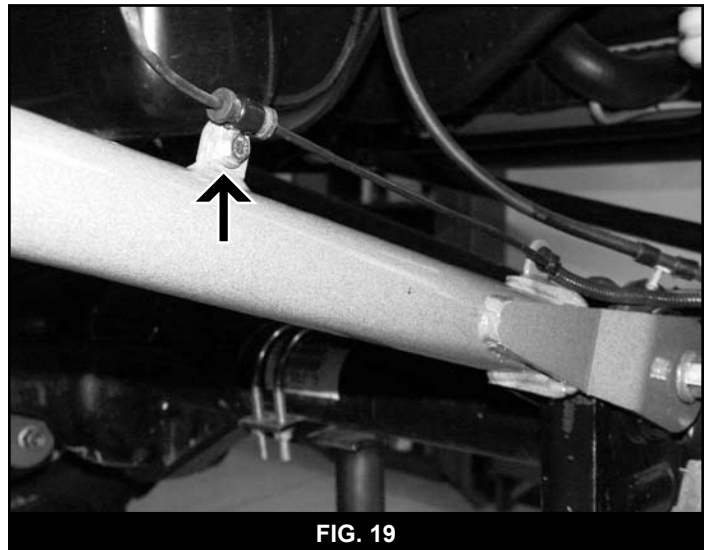

FIG. 19
46. Attach the plastic ABS wire clip to the front tab on the new upper control arm. Secure the wire to the rear tab with the provided wire clip and 1/4" x 3/4" blot, nut and 1/4" USS washers. Torque 1/4" hardware to 10 ft-lbs. (Fig. 19)